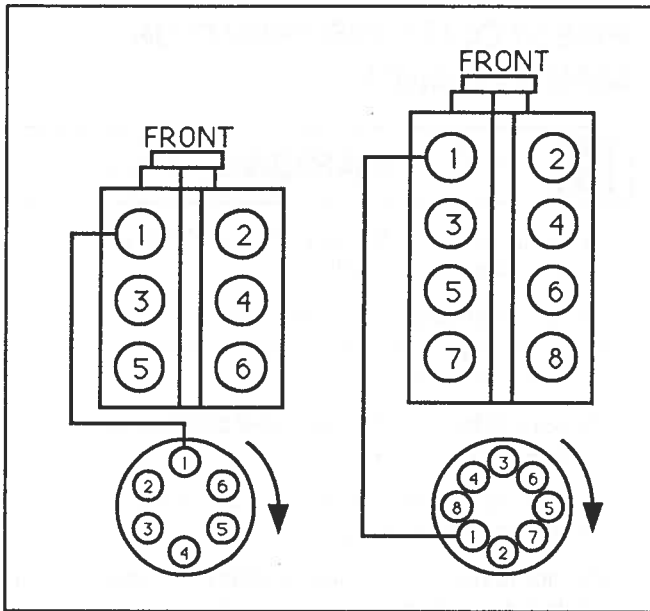

Figure 6-34. Ignition Wiring (Left-Hand Rotation Engine)
12. Install spark plug wires (if removed) as shown in Figures 6-34 and 6-35.